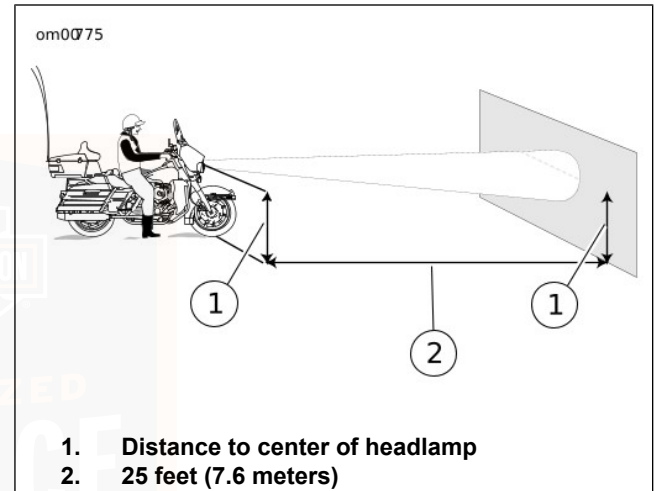

Figure 57. Check Headlamp Alignment: FLHTCUSE
3. See Figure 57. Point the front of the motorcycle toward a screen or wall which is 25 feet (7.6 meters) from where patch of front tire contacts floor (i.e. - directly below front axle).
4. Draw a horizontal line on screen or wall (1) that is exactly the same height above the floor as the headlamp center.